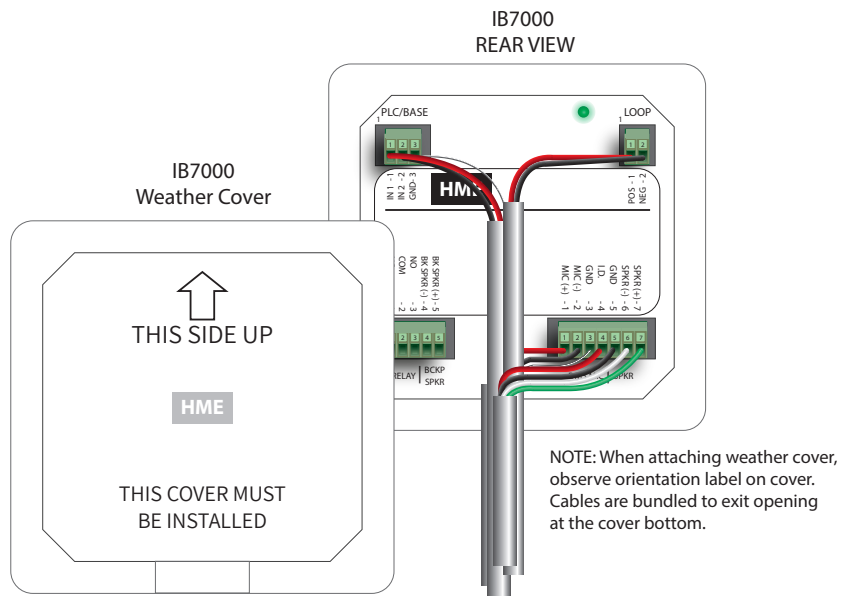

Fig. 4
Note: The cover must be oriented and installed the correct way to be effective (see Fig. 4).
1. Orient the weather cover correctly before installing (see the up arrow on the cover rear, Fig. 4 & 5).